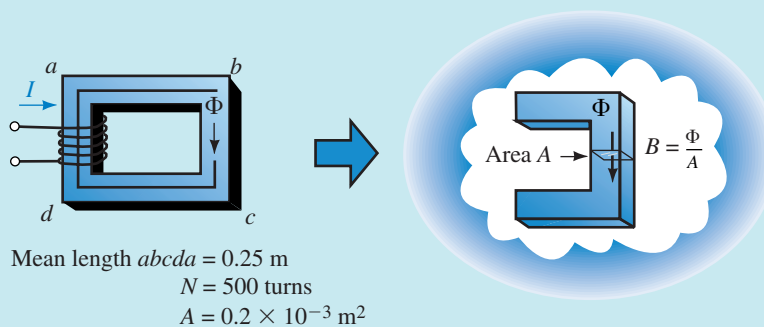

FIGURE 12–24
EXAMPLE 12–5 If the core of Figure 12–24 is cast iron and $\Phi = 0.1 \times 10^{-3}$ Wb, what is the coil current?
2. From the B - H curve (cast iron), Figure 12–19, $H = 1550$ At/m.